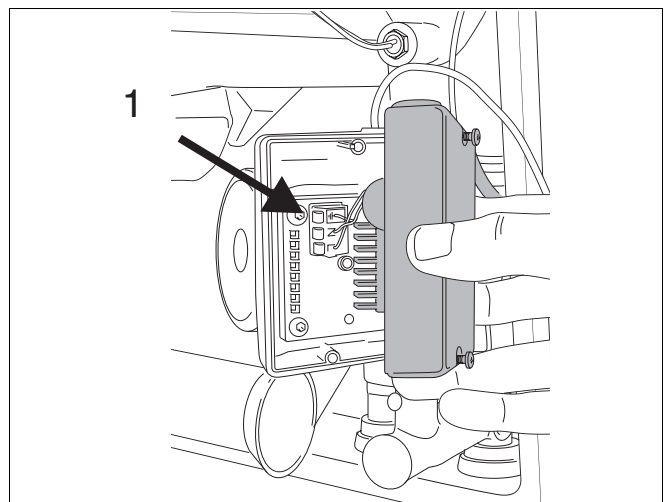

fig. 61 Cable modulating pump
- Loosen cable (fig. 61, item 1). Note order of cable terminals.